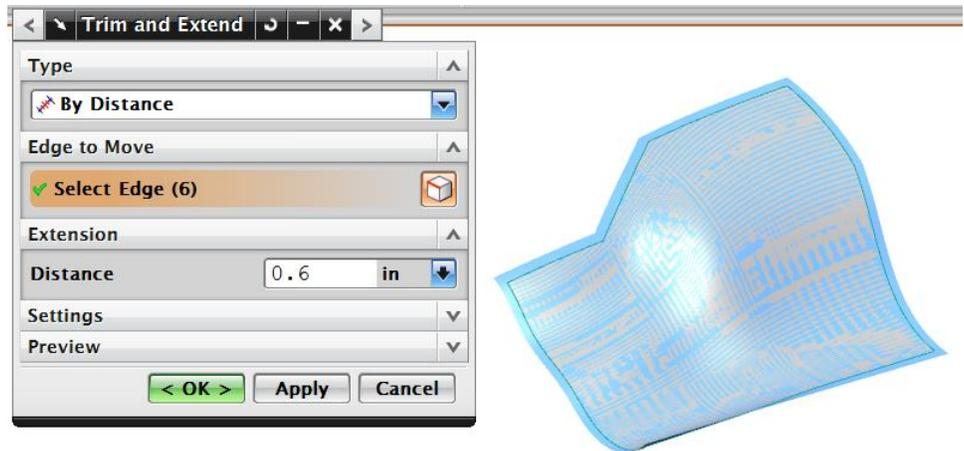

Figure 2–44
2. Select the 6 edges of **Tool_Surface** and enter ~~[0.6 in] (15 mm)~~ for **Distance** as shown in Figure 2–44.